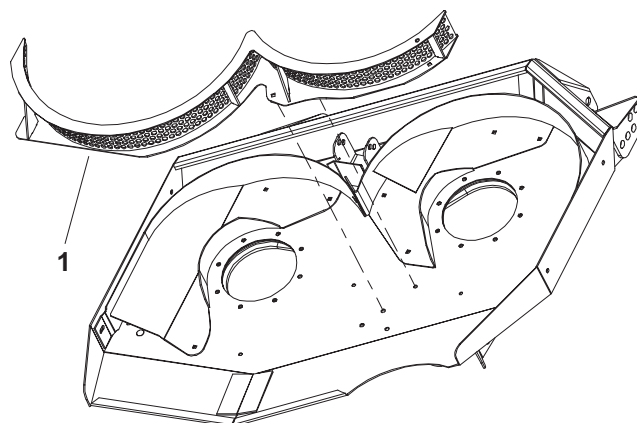

Figure 2
8. Secure the mulching screen to the deck with (6) carriage bolts and locknuts. The carriage bolts are to be installed from the bottom of the deck. Torque to 105 in-lb.
12. While aligning the holes in the wing deck mulching screen with the existing holes in the deck, position the wing deck mulching screen into the deck as shown in figure 2.
13. Using carriage bolts and nuts, mount the wing deck mulching screen to the deck as shown in figure 2.